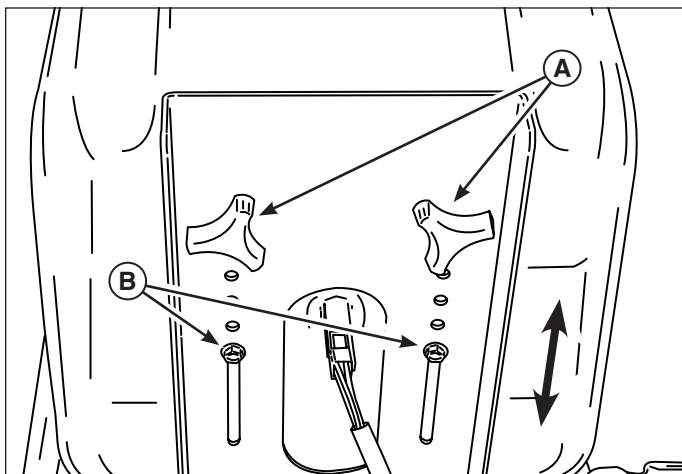

Figure 13. Seat Adjustment
Raise the seat. Remove the knobs (A, Figure 13), and loosen the support bolts (B). Slide the seat to the desired position, then reinstall the knobs and retighten the bolts.